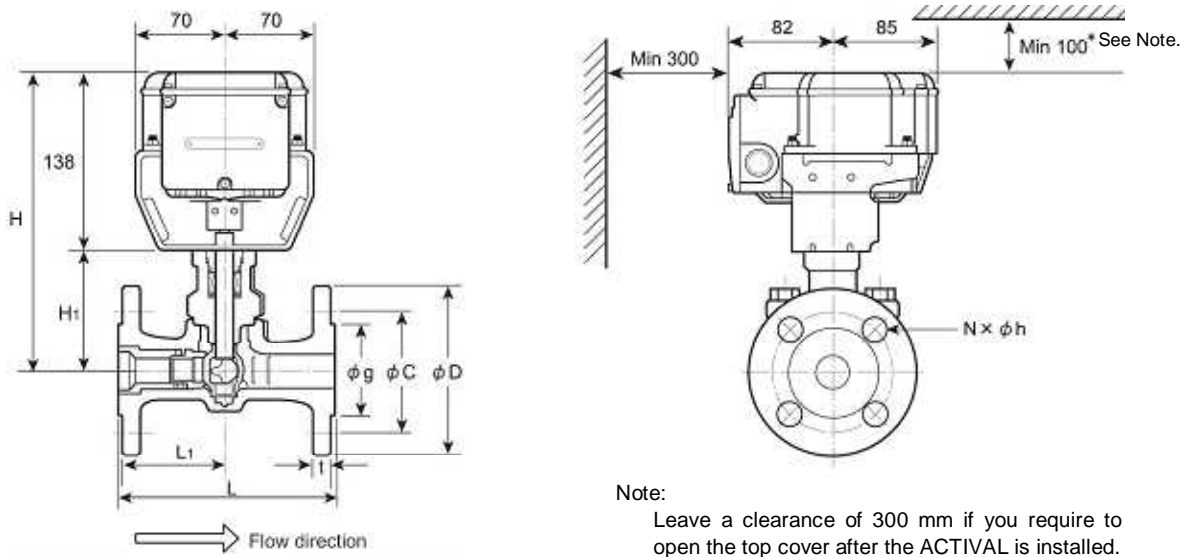

Figure 1. Dimensions (mm): Valve body
- 2) Install the ACTIVAL in a position allowing easy access for maintenance and inspection. Fig. 1 shows the minimum clearance for maintenance and inspection. When installing the ACTIVAL in a ceiling space, place a drain pan under the valve.